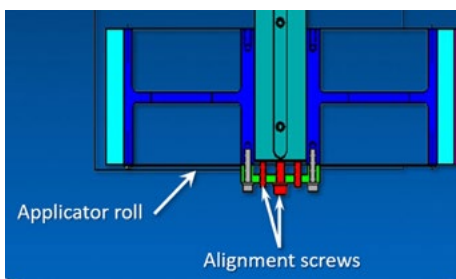

Figure 5
- a. Adjust the mounting cap of the applicator roll to have the roll just overlap the top of a can installed on the mandrel. (Figure 5)